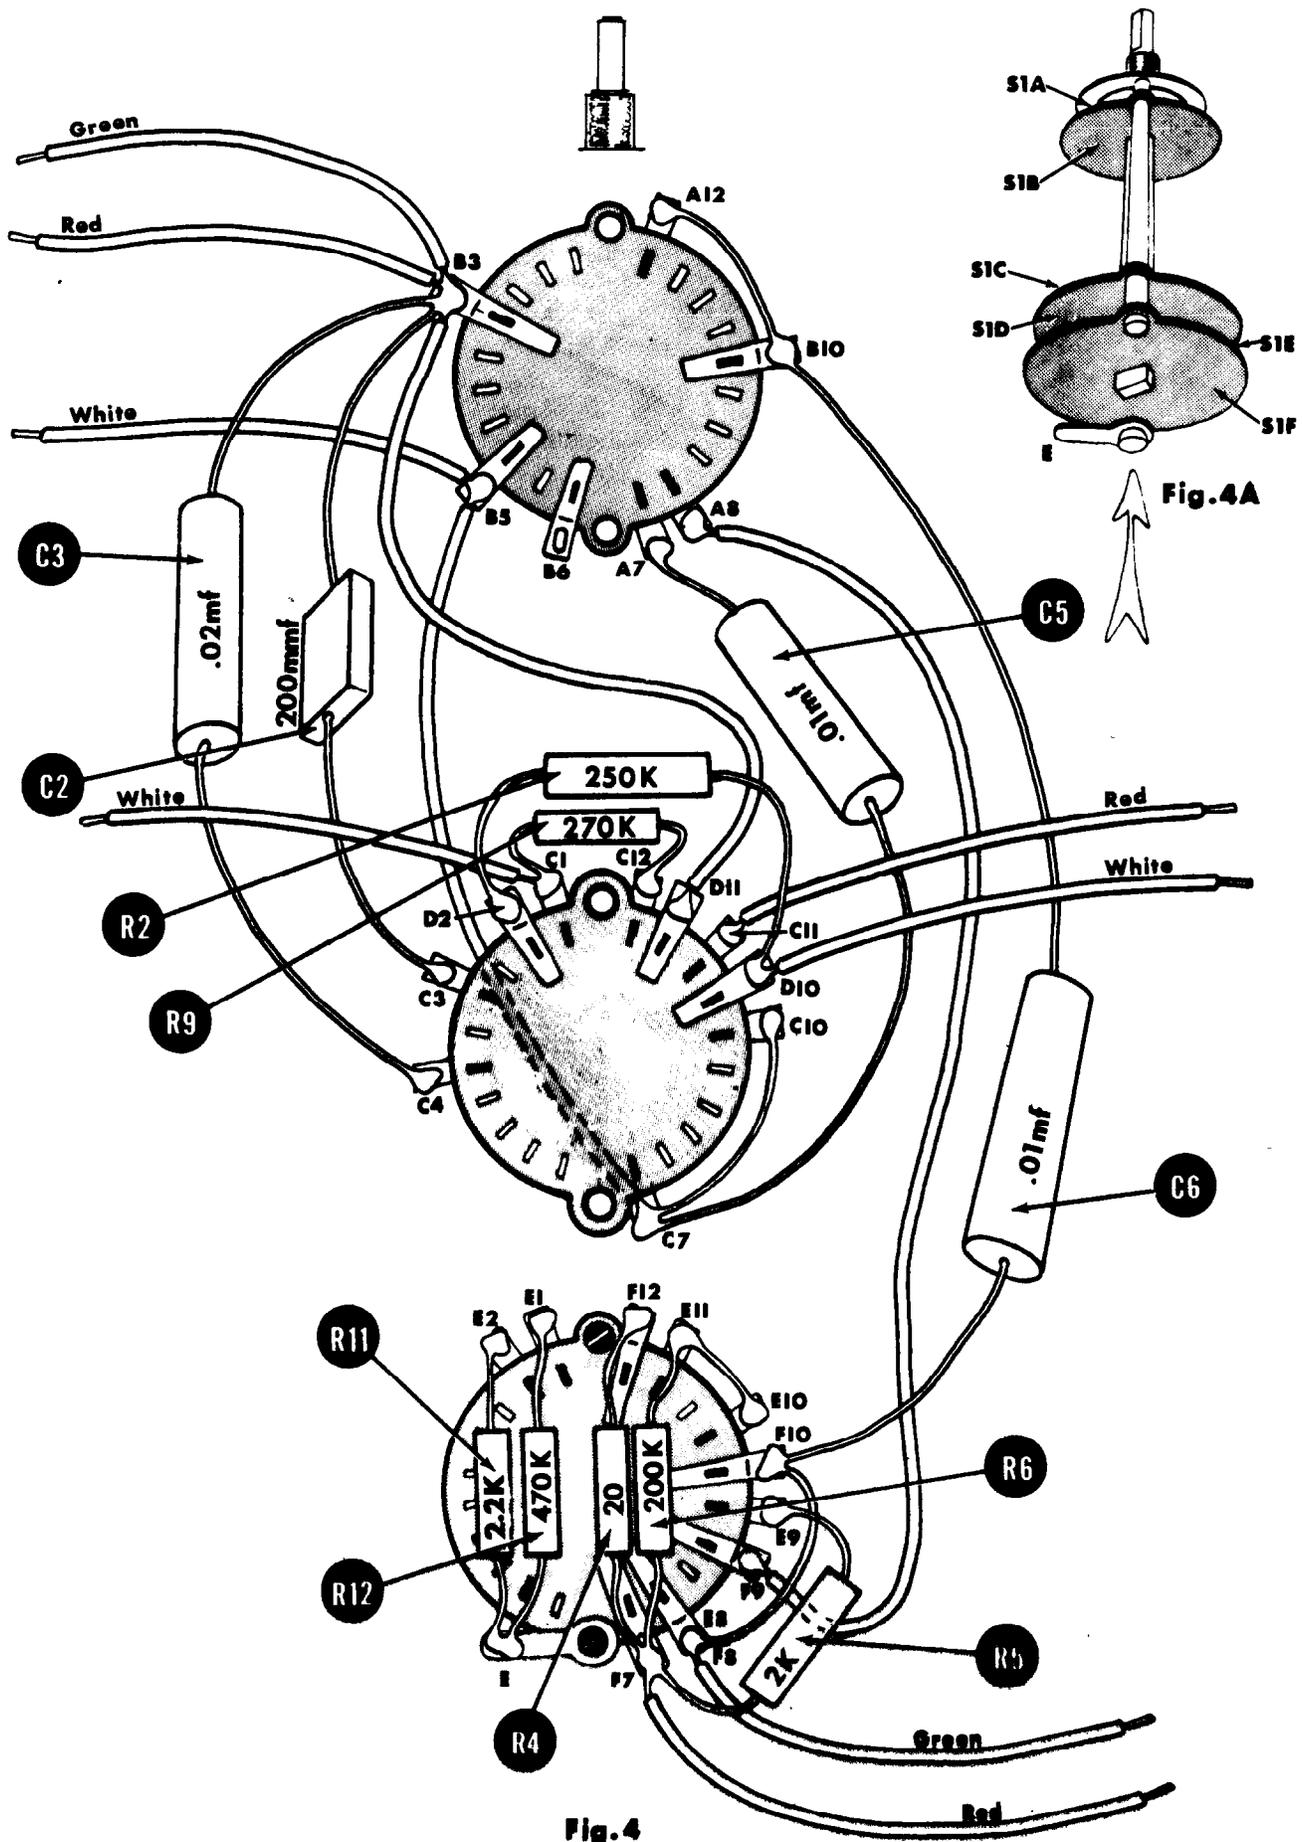

Fig. 4
The following instructions cover the prewiring of the range switch, S1, as shown in Fig. 4. To see the switch as shown in Fig. 4, hold it with the shaft pointing away from you and with the ground lug E on the under side. Fig. 4 A is a perspective drawing of switch, S1, indicating the view employed in Fig. 4.
- (f) Fig. 4. Connect a 2200 Ω resistor, R11, from E2 (S) to ground lug "E" (C).
- (f) Fig. 4. Connect a 470 K Ω resistor, R12, from E1 (S) to ground lug "E" (S).
- (f) Fig. 4. Connect a 20 Ω resistor, R4, from F12 (S) to F7 (C).
- (f) Fig. 4. Connect a 200 K Ω resistor, R6, from F7 (C) through E11 (S), to E10 (S).
- (f) Fig. 4. Connect a 2 K Ω resistor, R5, from E9 (S) to F7 (C).
- (f) Fig. 4. Connect a 5 1/2 in. length of red hook-up wire to F7 (S).
- (f) Fig. 4. Connect a short length of green hook-up wire from F10 (C) to F8 (C).
- (f) Fig. 4. Connect a 8 1/4 in. length of green hook-up wire to F8 (S). (E8 is electrically connected to F8 by rivet)
- (f) Fig. 4. Connect a length of green hook-up wire from A8 (S) to F9 (C).
- (f) Fig. 4. Connect a 270 K Ω resistor, R9, from C12 (S) to C1 (C).
- (f) Fig. 4. Connect a 3 in. length of white hook-up wire to C1 (S).
- (f) Fig. 4. Connect a 250 K resistor, R2, from D2 (S) to D10 (C).
- (f) Fig. 4. Connect a 5 in. length of white hook-up wire to D10 (S).
- (f) Fig. 4. Connect a 5 1/2 in. length of red hook-up wire to C11 (S).
- (f) Fig. 4. Connect a short length of hook-up wire from C7 (C) to B5 (C).
- (f) Fig. 4. Connect a 6 1/2 in. length of white hook-up wire to B5 (S).
- (f) Fig. 4. Connect a short length of bare wire from C7 (C) to C10 (S).
- (f) Fig. 4. Connect a .01 mf capacitor, C5, from C7 (S) to A7 (S).
- (f) Fig. 4. Connect a .01 mf capacitor, C6, from F10 (S), through B10 (S) to A12 (S).
- (f) Fig. 4. Connect a short length of white hook-up wire from D11 (S) to B3 (C).
- (f) Fig. 4. Connect a 200 mmf capacitor, C2, from C3 (S) to B3 (C).
- (f) Fig. 4. Connect a .02 mf capacitor, C3, from C4 (S) to B3 (C).
- (f) Fig. 4. Connect a 5 1/2 in. length of green hook-up wire to B3 (C).
- (f) Fig. 4. Connect a 4 1/2 in. length of red hook-up wire to B3 (S).